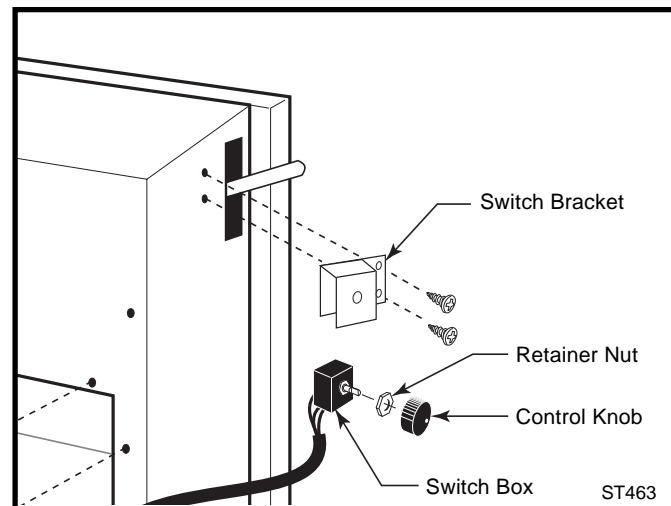

Fig. 21-1 Install the rheostat switch.
1. Install the Switch within the Switch Bracket that is provided with the stove in the Hardware Bag. Use the Retainer Nut and Control Knob provided in the Fan Kit. (Fig.21-1)